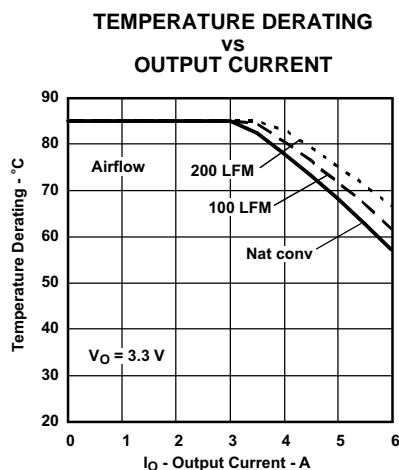
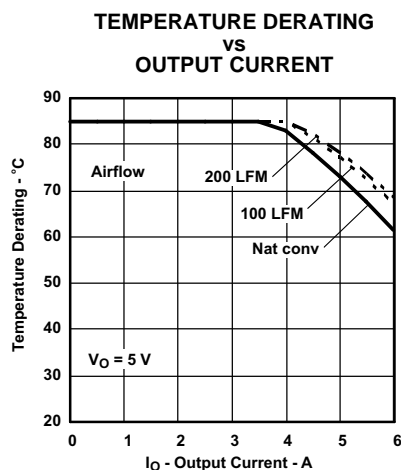

Figure 4.
Figure 5.
- (2) The temperature derating curves represent the conditions at which internal components are at or below the manufacturer's maximum operating temperatures. Derating limits apply to modules soldered directly to a 100 mm x 100 mm double-sided PCB with 2 oz. copper. Applies to Figure 4 and Figure 5.